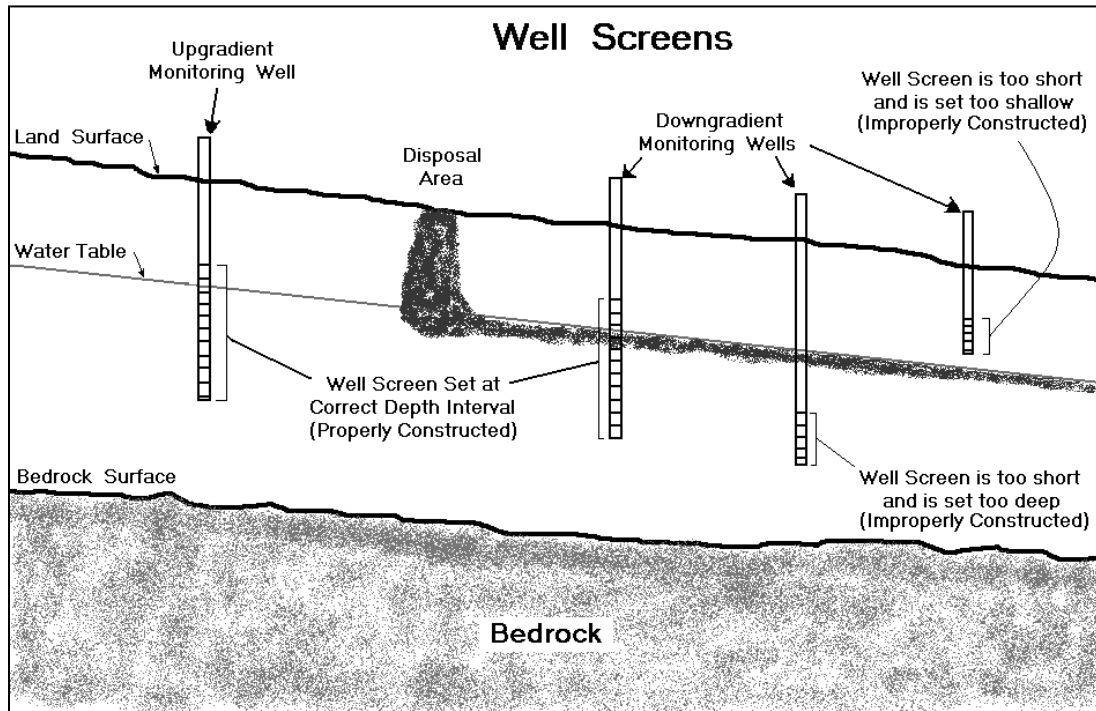

Figure 8-4. Proper and improper placement of screens in monitoring wells.
- The length and positioning of the well screen below land surface must be such that the static water table is never above or below the uppermost and lowermost screen openings, respectively, at any time of the year (Figure 8-4). Screen settings that do not meet this criteria result in either “dry” wells (i.e., the water table is below the screen, precluding collection of a sample) or a situation where the layer of dissolved contaminants in the groundwater may be above the zone where the sample is collected (i.e., the water table